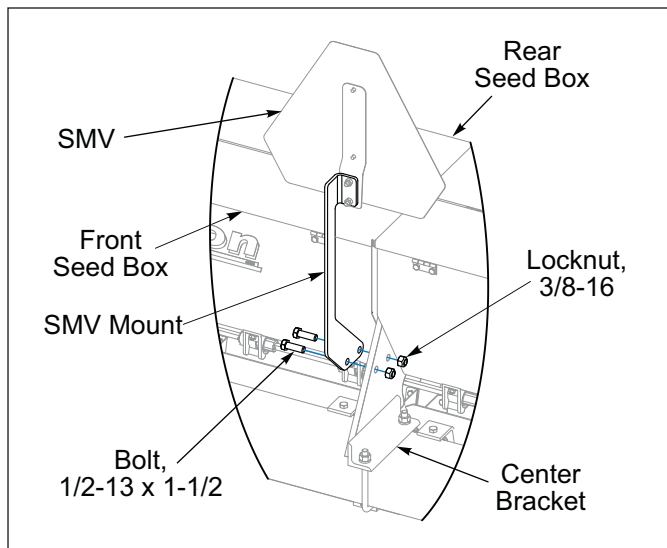

Figure 2-4: SMV Mount (Before 08/2025)
2. Center 3-PT Hitch Assembly in relationship with the Seed Box Center Bracket. Attach 3-PT Hitch to Seeder Frame Tube with 5/8-11 U-Bolts, Lock Washers and Nuts. **See Figure 2-4.**
4. 8FT and 10FT Seeders, install SMV Mount to Seed Box Center Bracket with 1/2-13 x 1-1/2 Bolts and Locknuts. **See Figure 2-4.**